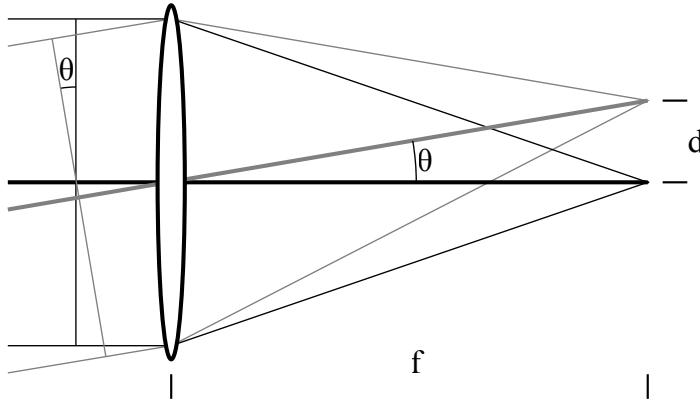

Figure 2: Tilted wavefronts converge at displaced points in the focal plane.
If a wavefront is tilted relative to the optical axis, after the lens the light will converge at a point that is displaced in the focal plane (Fig. 2).
**Q1:** By what distance  $d$  is the focus displaced for a lens with focal length  $f$  given a wavefront tilt angle  $\theta$ ? (See Figure 2.) In the small angle approximation?